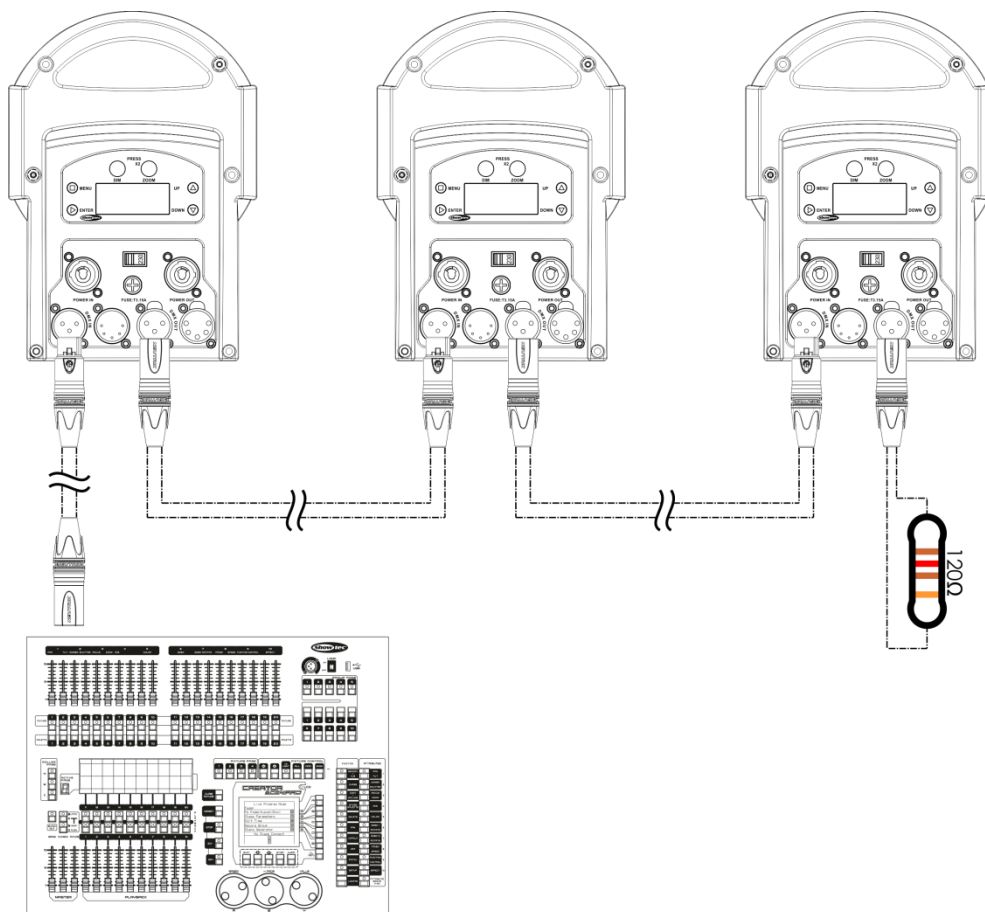

Fig. 07
- 04) Link the units as shown in fig. 07. Connect the first unit's DMX "out" socket with the second unit's "in" socket, using a DMX-signal cable. Repeat this process to link the second, third, and fourth units.